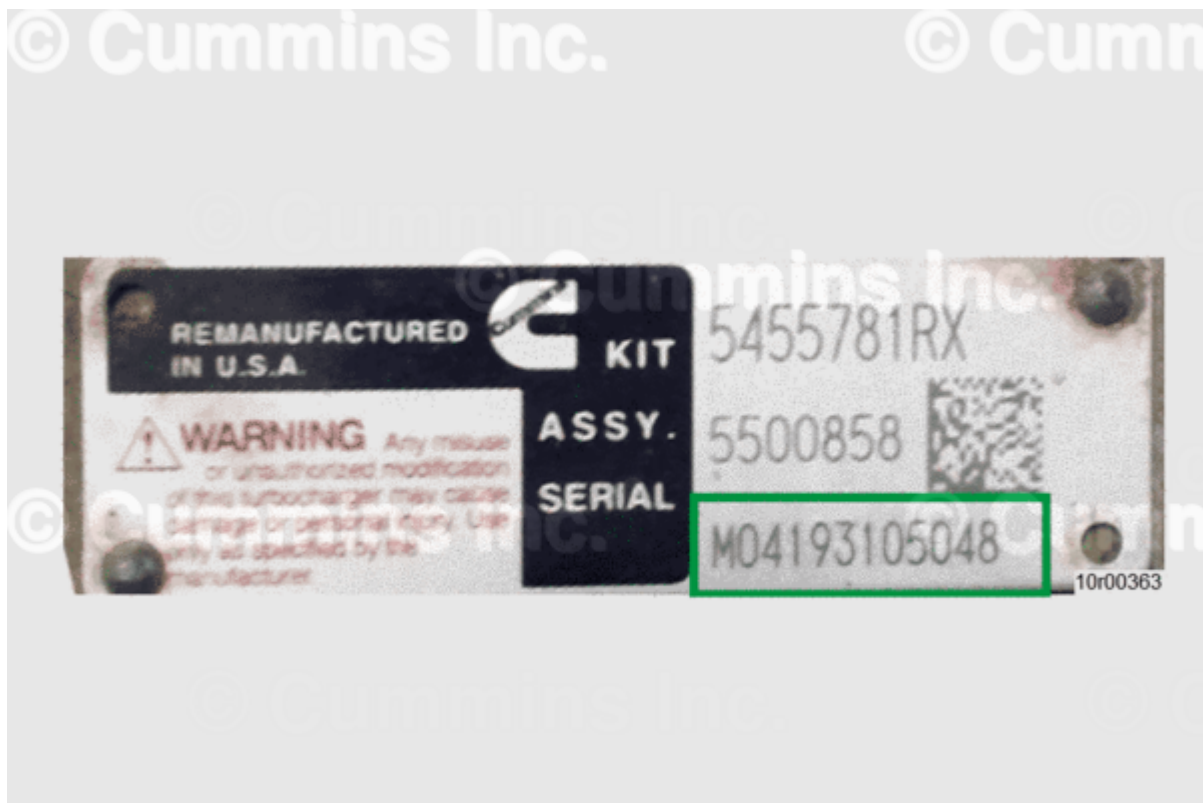

Figure 1, Wastegate Turbocharger Made In RMP on 31 May 2019 (M04YYDDMM...).
- Figure 1 has an example of how to determine the build date from the RMP turbocharger serial starting from the left: